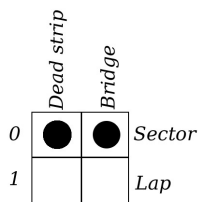

Figure 34: DS bridge sector sensor, dead strip sector sensor.
In order that the *Track Interface* interprets both DS bridge and dead strip as sector sensors, the double switch (5) must be set as shown in figure 34.